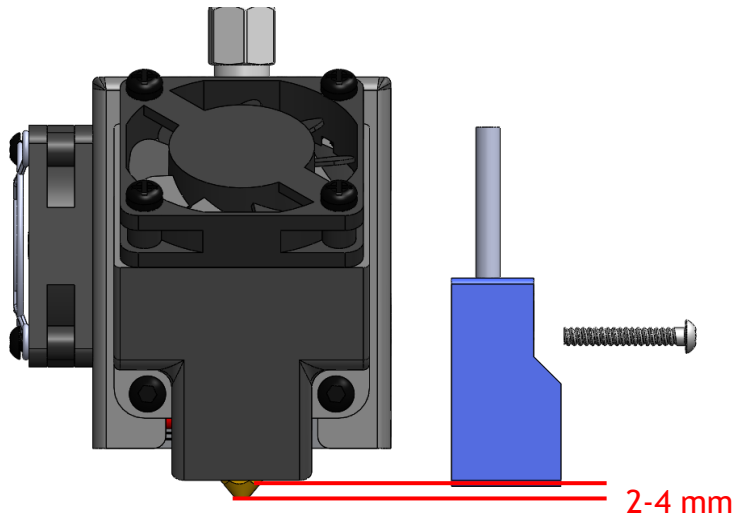

Fig1
2. Install the Proximity sensor on the side of HOTEND. The bottom of the sensor should be approximately 2-4 mm above the nozzle (Fig 1).